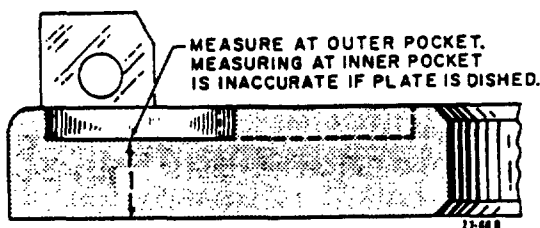

Figure 4-4. Pressure Plate Thickness Dimension
6. If pressure plate is scored, heat checked, or warped more than 0.020 inch, it must be replaced or refaced. Remove only enough metal to obtain a smooth flat surface. Finish with a light cut and polish with emery cloth. When thickness (1) becomes less than the worn limit given in specifications, the plate must be replaced. Measure at outer spring pocket, see Figure 4-4. Measuring at inner pocket is not accurate, if pressure plate is dished. If cleft lugs are worn, cracked or distorted, replace the plate. Replace eyebolts if they are distorted, have worn threads or keyways.